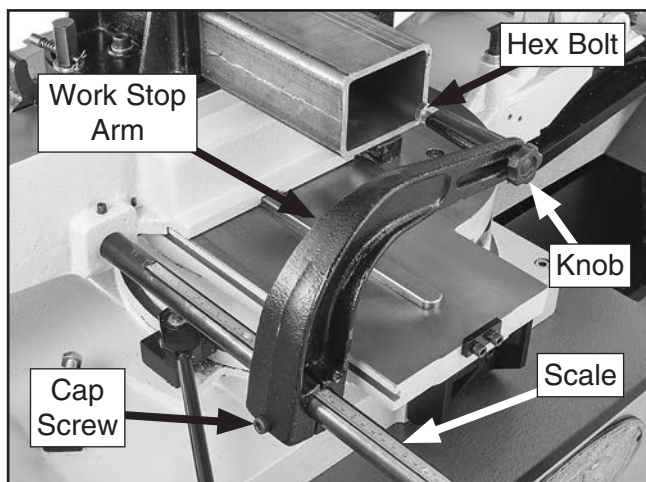

Figure 40. Work stop set for repetitive cutting operation.
1. Loosen cap screw shown in **Figure 40**, and adjust work stop arm relative to depth of cut indicated on stop rod scale.
2. Loosen work stop knob (see **Figure 40**), and adjust horizontal position of hex bolt relative to end of workpiece, then tighten cap screw and knob.